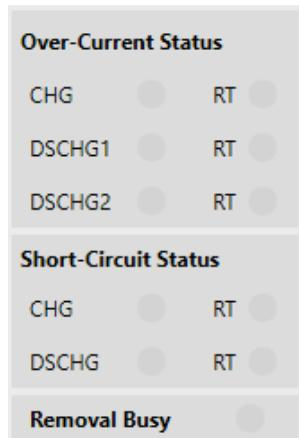

Figure 40: Over-Current and Short-Circuit Status Monitor
8. Monitor the OC and SC statuses (see Figure 40).